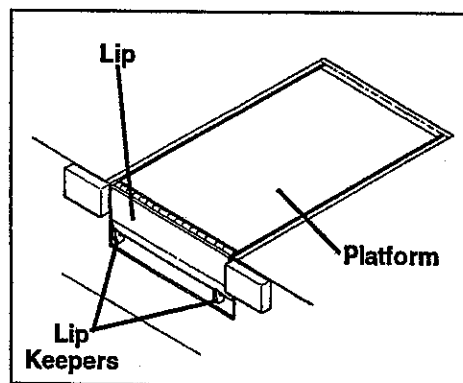

Fig. 7. Dock Leveler In Cross Traffic Position
11. Set the leveler platform in the cross traffic position (the lip fully folded, inside the lip keepers, and the platform level with the dock floor). See Figure 7.
26. If the dock leveler is in the cross traffic position (see Figure 7), use a fork truck (or other method) to raise the platform and set it on the maintenance prop.